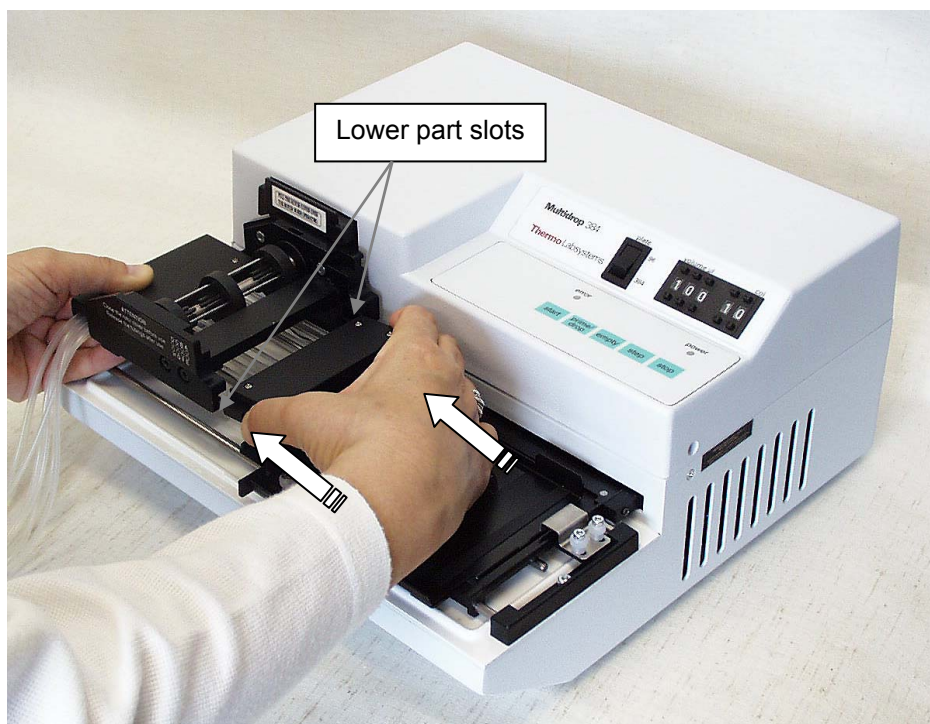
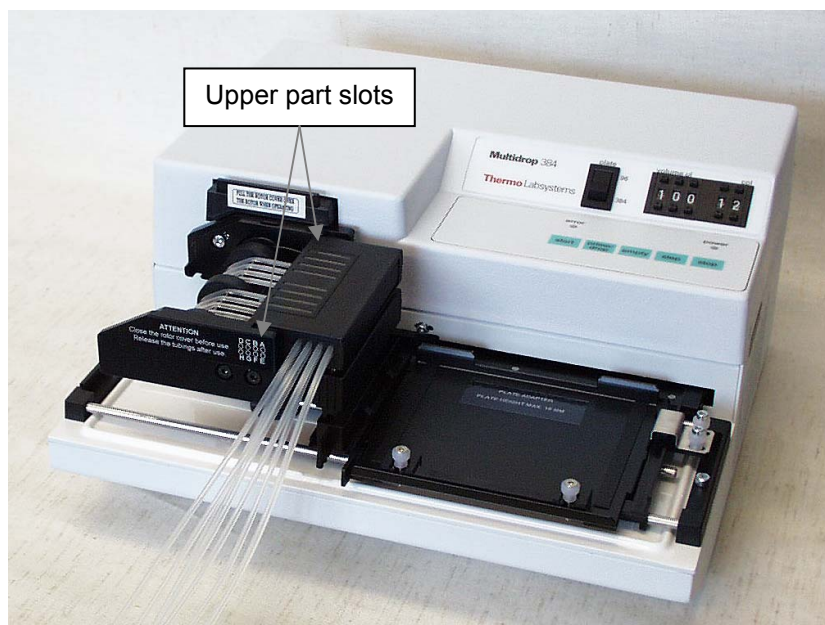

Fig. 6.3 Inserting the lower part of the dispensing cassette into its slots
Fig. 6.5 Lower and upper parts of the dispensing cassette inserted evenly into their slots
3. Carefully place the eight tubes below the pump rotor and insert the lower part of the cassette into the lower part slots of the pump body (*Fig. 6.3*). Check that the tubes are freely placed below the rotor and the tension limiting wires below the rotor shaft.
5. Double-check that both the upper and the lower parts are properly placed into their corresponding slots (*Fig. 6.3 and Fig. 6.5*).